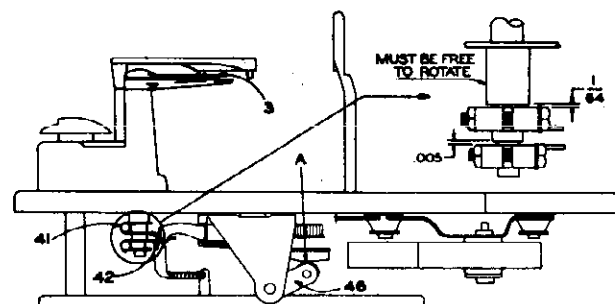

Fig. 5
1. Turn the Record Shelf (4) to the 12" position.
2. Trip the Reject control and rotate the Turntable clockwise until the push off Blade reaches its farthest forward position. At this point the cam follower will be at the highest point of the Main Cam ("A" of Fig. 5).
3. Loosen the lock bolts of (41) and (42).
5. At the same time, push the Push-off Blade forward as far as possible and push the Push-off Blade and Record Shelf Assembly downward tight against the Housing (6).
6. Position the Record Shelf finger and the Toggle Assembly (41) so the 12" finger of the Push-off